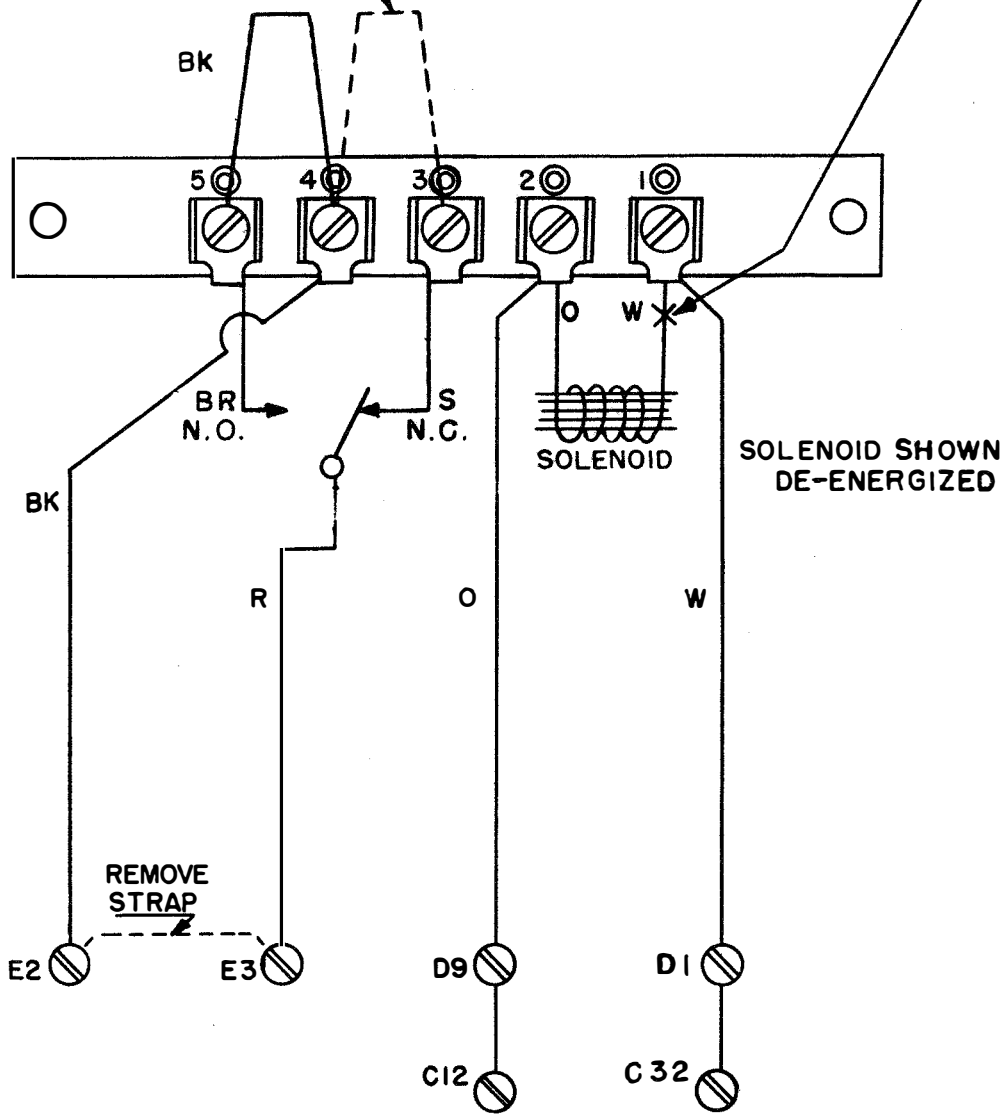

FIGURE 1
### a. Operation from Separate Motor Control Loop. (Figure 1)
\*(1) For operation on a separate motor control line (See Figure 1). (Normally open contacts energizing motor).